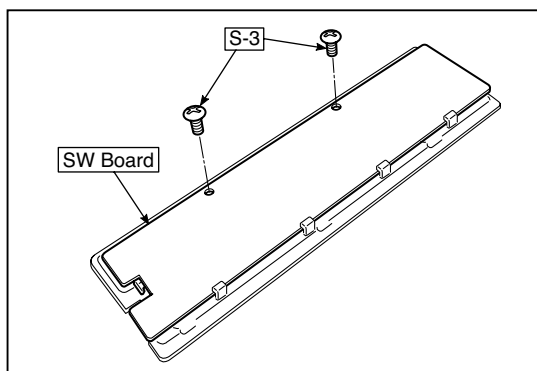

Fig.17
3. Remove the "S-3" screws shown in the figure 17 and then remove the SW Board.